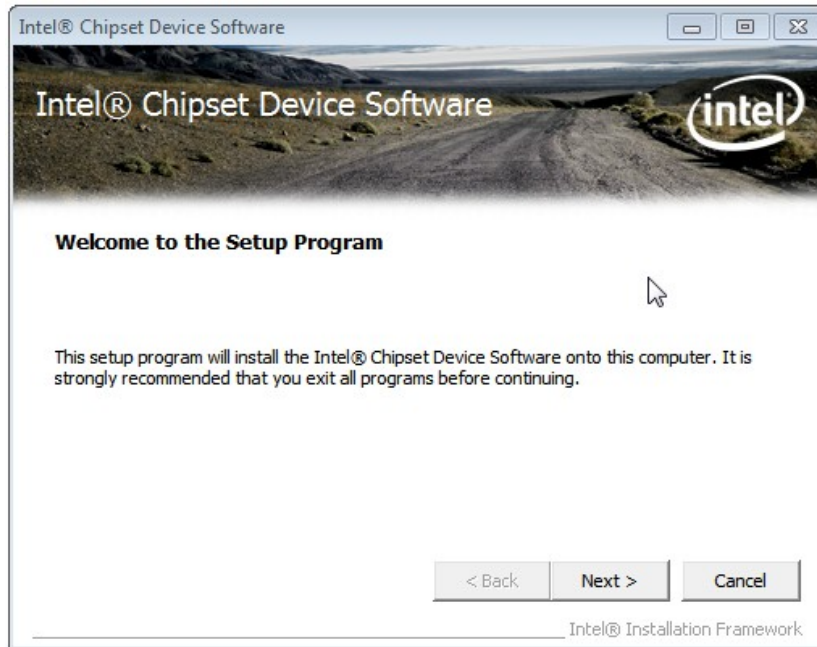

Figure 6-2: Chipset Driver Welcome Screen
Step 7: When the setup files are completely extracted, the **Welcome Screen** in **Figure 6-2** appears.